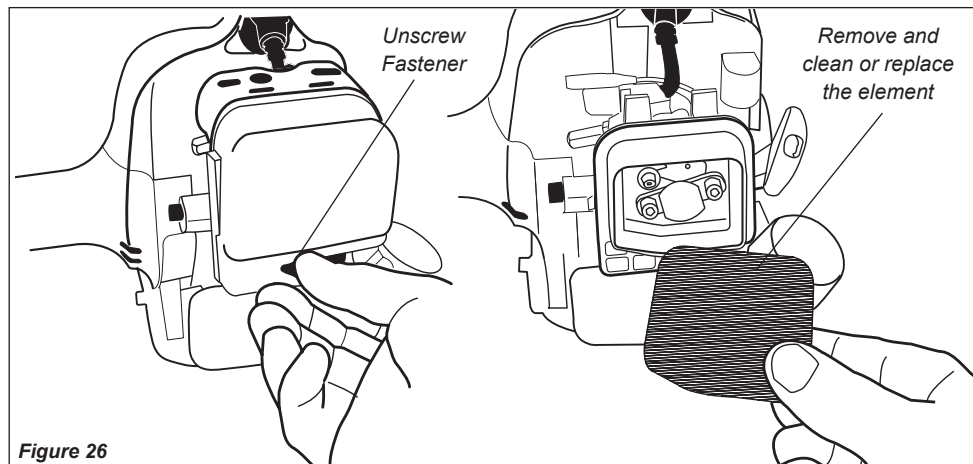

Figure 26
- Remove the air cleaner element. See Figure 26. Clean or replace as necessary. To clean element: wash it thoroughly in soap and water. Let it dry before reinstalling the element.